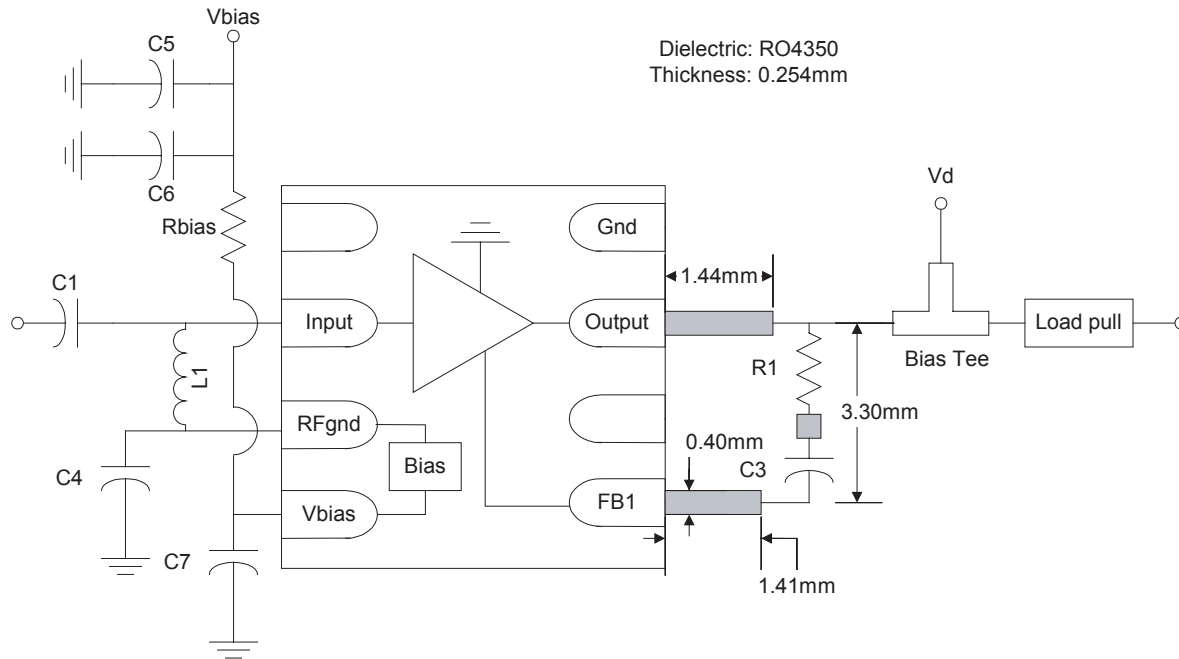

Figure 34. Test setup for load pull data
2. S and noise parameters are measured on PCB. The PCB material is 10 mils Roger RO4350. Figure 34 shows the input and output reference plane.
1. S-parameters are measured on PCB. The PCB material is 10 mils Roger RO4350. Figure 34 shows the input and output reference plane.